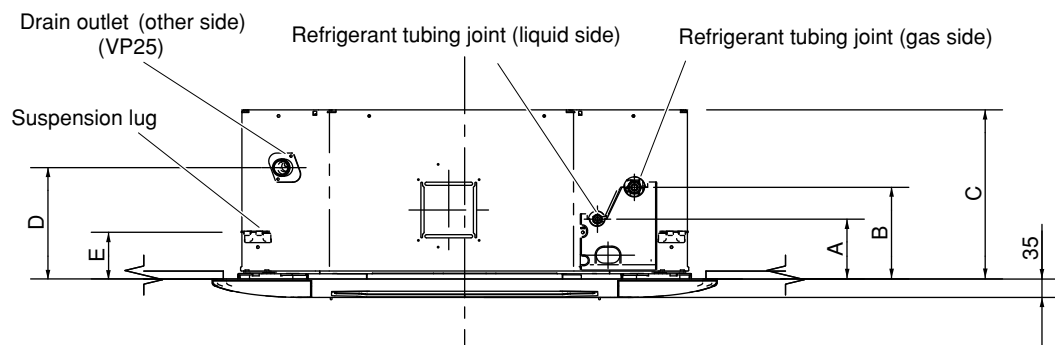

Fig. 3-34
- (3) Determine the pitch of the suspension bolts using the supplied full-scale installation diagram. The diagram and table (Fig. 3-34 and Table 3-4) show the relationship between the positions of the suspension fitting, unit, and panel.